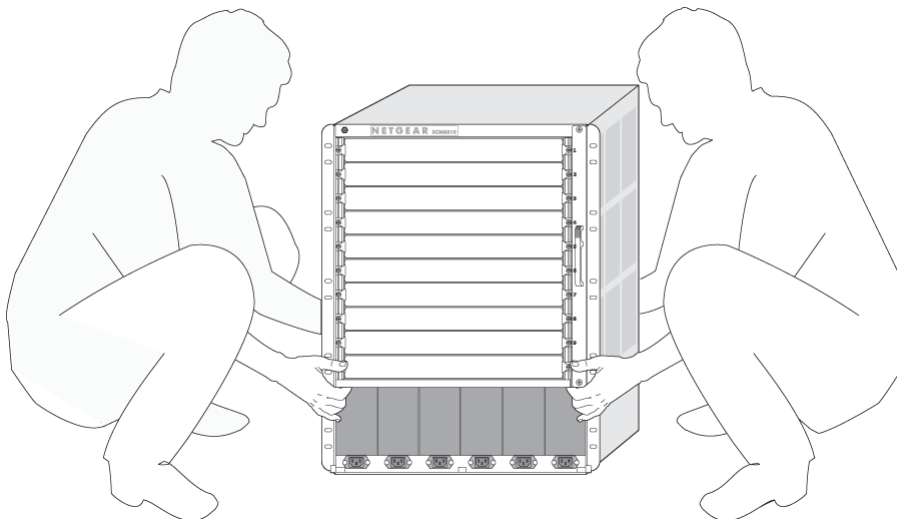

Figure 24. Correct method for lifting the XCM8810 Chassis
5. At each side of the chassis, place one hand in an empty power supply bay and the other hand in the recessed hand-hold on the back panel of the XCM8810 chassis (see Figure 24, *Correct method for lifting the XCM8810 Chassis*).